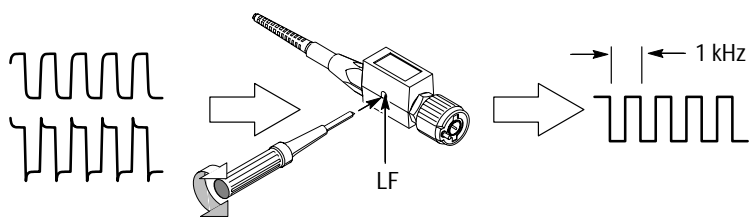

Figure 2: P6563A Low-Frequency Adjustment
5. Using the adjustment tool, adjust **LF** in the probe until you see a flat-top square wave on the display. See figure 2.